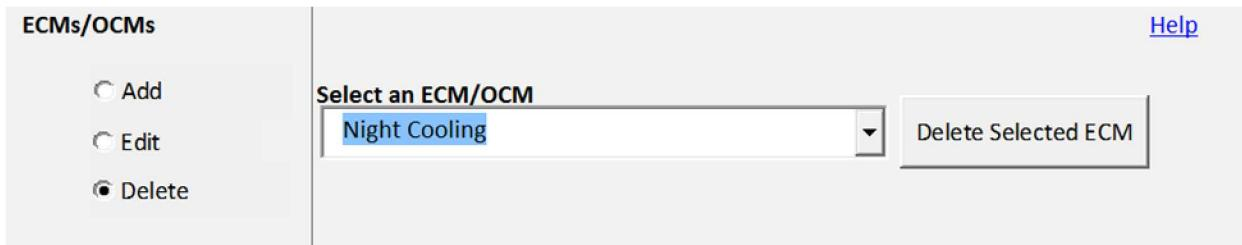

Figure 5. Hidden delete ECM button displayed in delete mode
there will always be a list of ECMs that have already been added and can be accessed in the “Edit” mode while a second list of ECMs that have not been added can be accessed through the “Add” mode. If an ECM already added needs to be deleted, selecting “Delete” mode will cause a delete ECM button to appear next to the ECM combo box (4) as seen in Figure 5.